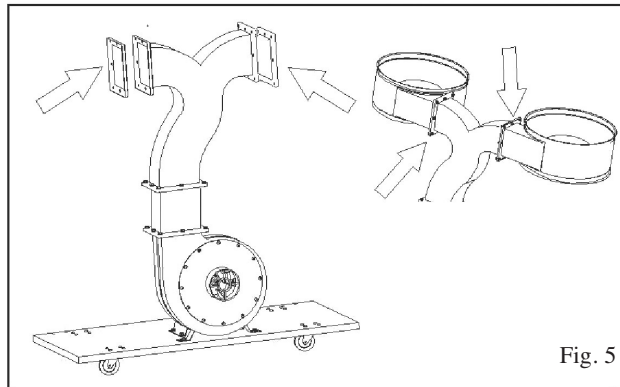

Fig. 5
Next install the two collectors (C) two packing (I) to the outlet as shown in Fig 5.